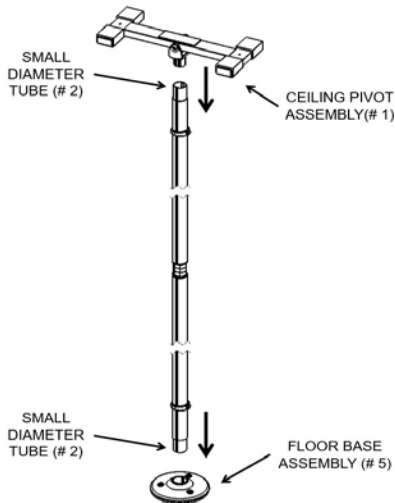

FIGURE 5
6. Insert the CEILING PIVOT ASSEMBLY (#1) into the SMALL DIAMETER TUBE (#2) as shown in Figure 5.
Place the FLOOR BASE ASSEMBLY (#5) on the floor where the product is to be installed and then insert the other SMALL DIAMETER TUBE (#2) into the FLOOR BASE ASSEMBLY (#5) as shown in Figure 5.